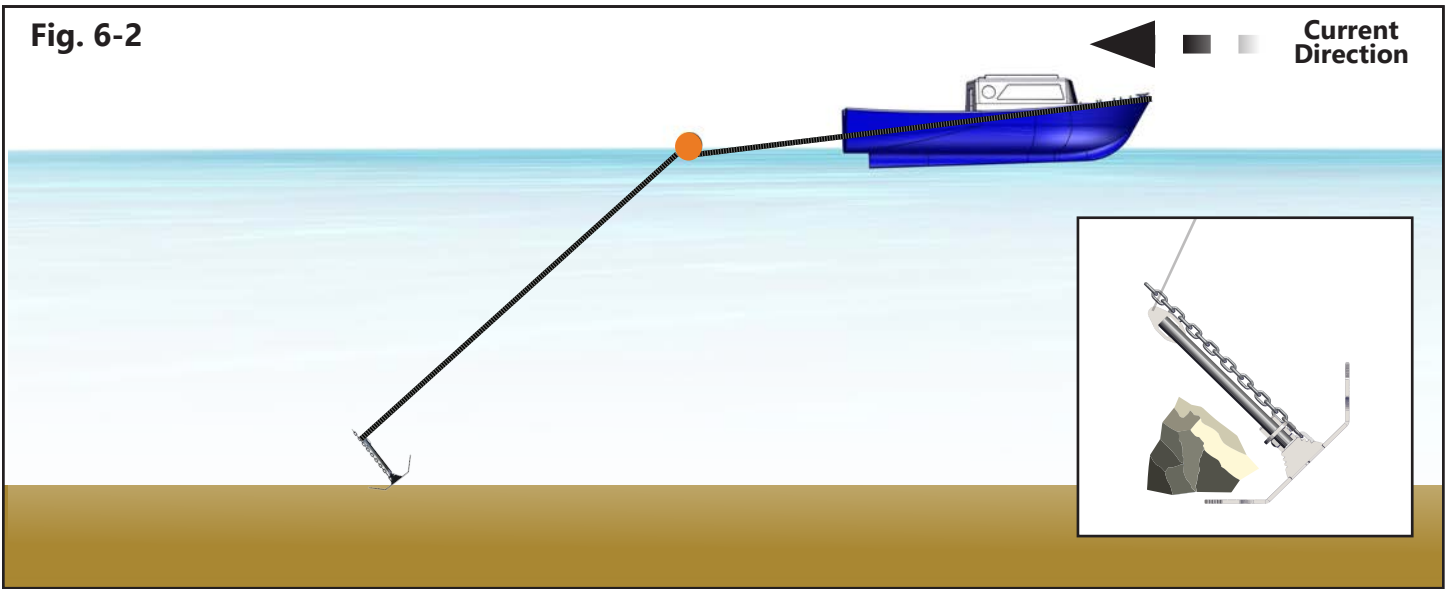

Fig. 6-3
5. Move upstream or upwind slowly pulling it free from its stuck position. See **Fig. 6-3**